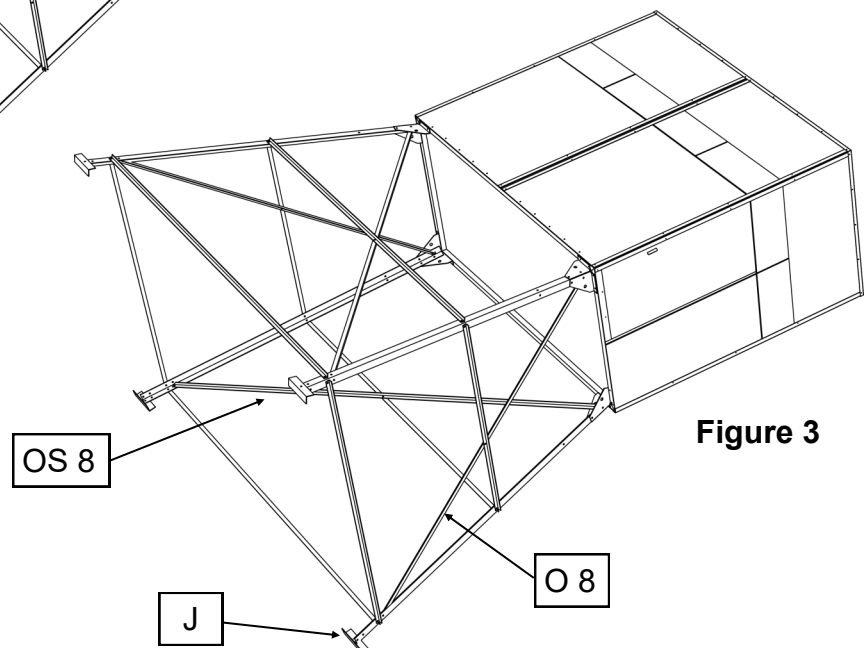

Figure 3
Step 3: Install the **Diagonal Bracing** (O 8) as shown. Be sure to bolt the intersection where **Diagonal Bracing** meets **Upper Horizontal Bracing** on all four sides. (*Figure 3*)
Step 4: Attach the **(J) Feet** (*Figure 3*)